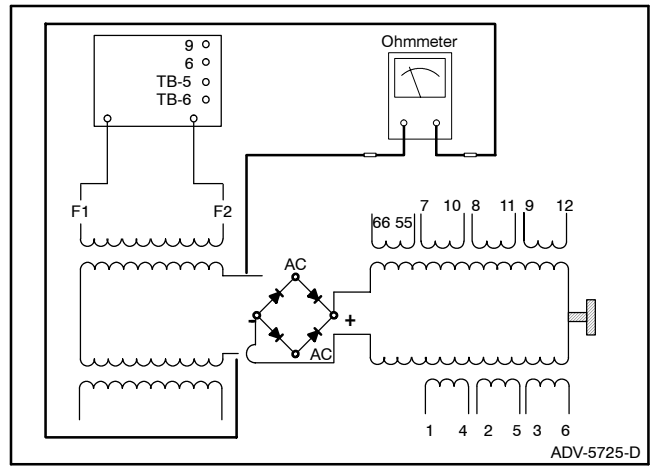

Figure 5-34 Exciter Armature Ohmmeter Test (10/12RZ Shown)
2. With an ohmmeter on the R x 1 scale, check resistance across exciter armature leads. See Figure 5-34. The armature resistance should be 0.6-0.8 ohms (continuity). No continuity indicates an open armature winding. If the resistance test proves inconclusive, perform a megohmmeter test on the exciter armature as described in the next step.